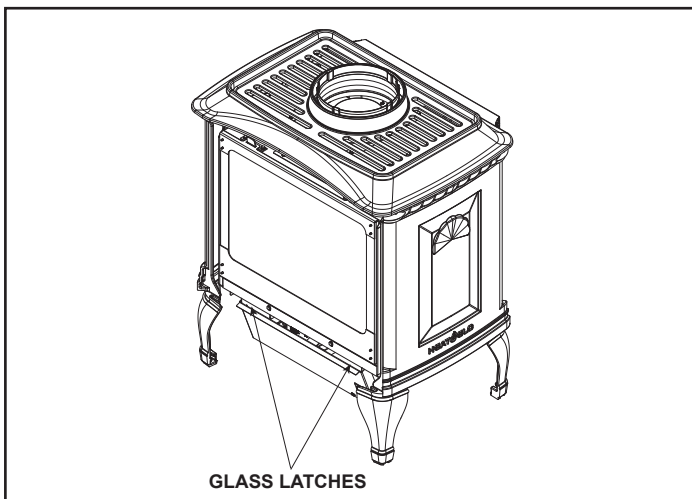

Figure 6.12 - Remove Glass Frame
11. Release the glass latches on the lower corners of the appliance and remove the glass assembly, Figure 6.12.